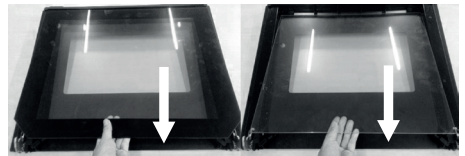

Fig. 3
4. When removing, lift the glass up and then pull it towards the oven as shown in Fig. 3. Do not lift the glass too high, some of the plastic parts of the upper cover may break.